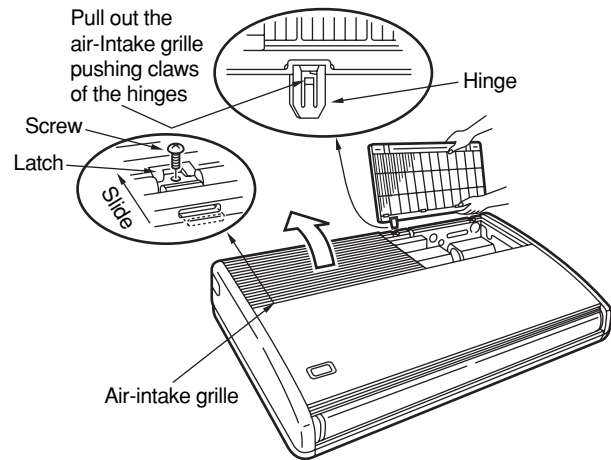
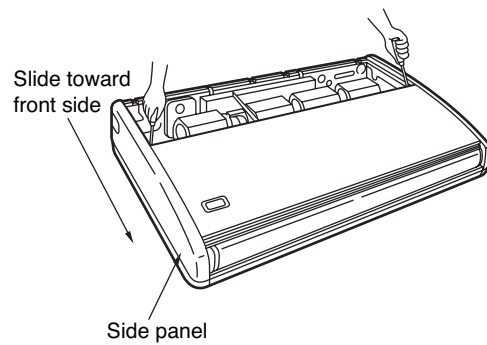

Fig. 3-78
Fig. 3-79
- (5) Before suspending the indoor unit, remove the 2 screws on the latch of the air-intake grilles, open the grilles, and remove them by pushing the claws of the hinges as shown in Fig. 3-78. Then remove both side panels sliding them along the unit toward the front after removing the two screws which fix them. (Fig. 3-79)